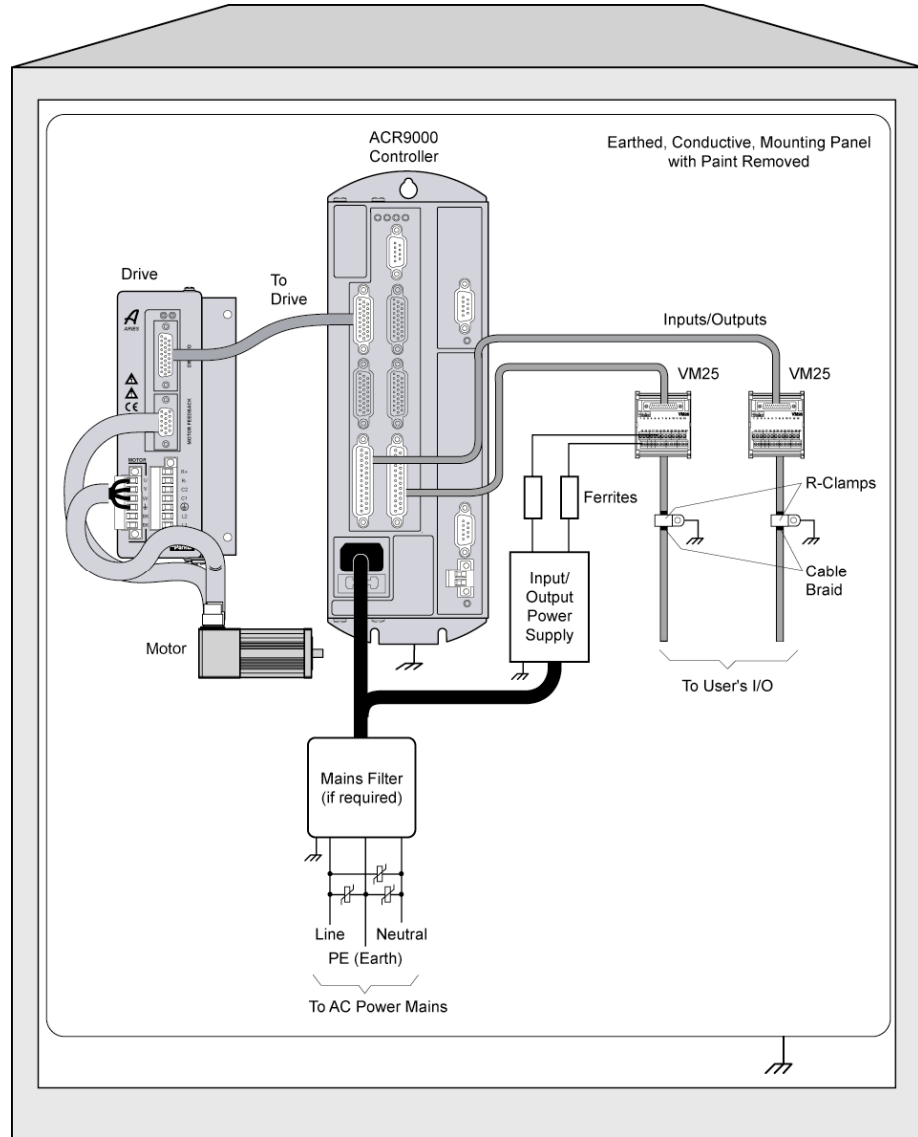

Figure 37 Typical LVD/EMC Installation
- Route cables as shown in the EMC Installation drawing, Figure 37 on page 156.
- Take care that the power supply providing the pull-up voltage to the controller's high-speed inputs and outputs is free from electrical noise. Short-Duration transient events, such as those caused by electrical relays, can induce sufficient voltage disturbance on unfiltered DC power lines to affect I/O performance. One method of reducing the amplitude of transient disturbances on DC power lines is to add ferrite suppressors (3 turns) to the conductors as shown in Figure 37 on page 156.